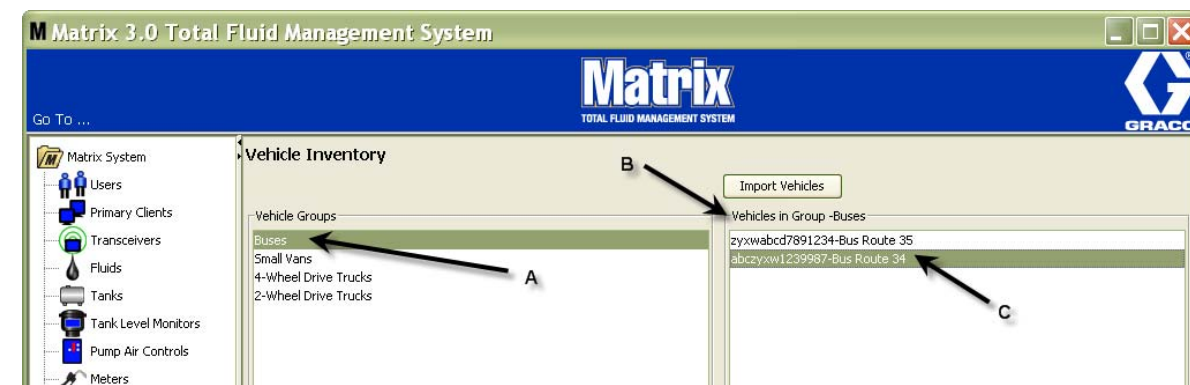

FIG. 169
7. The vehicles will only be displayed on the main Vehicle Inventory Screen when the specific group it is associated with is highlighted. In the example provided in FIG. 169 the Vehicle Group Buses is highlighted (A). Notice that the Group Name “Buses” has been added at the end of the Vehicles in Group column title (B) and the list displayed in that column only contains the Buses that are in the fleet (C)
Sections A, B, and C in FIG. 172 correspond to Sections A, B, and C in FIG. 169.